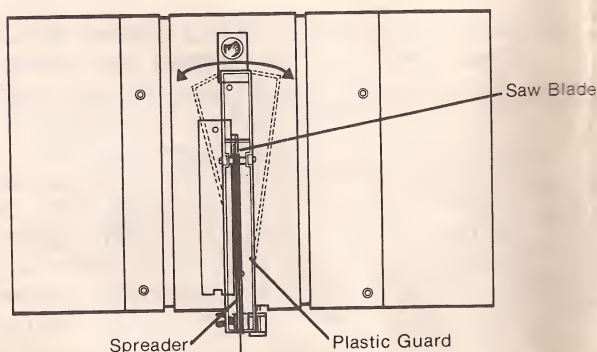

Figure 29
B. Adjust "Horizontal" and "Swing" simultaneously. (See figure 29.)